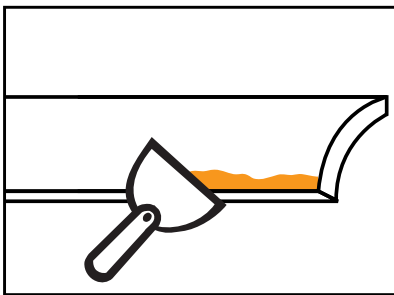

FIGURE 61 Butter Up
- Spread a 10mm continuous bead of cement along both back edges and the mitred end of the cornice [Figure 61]